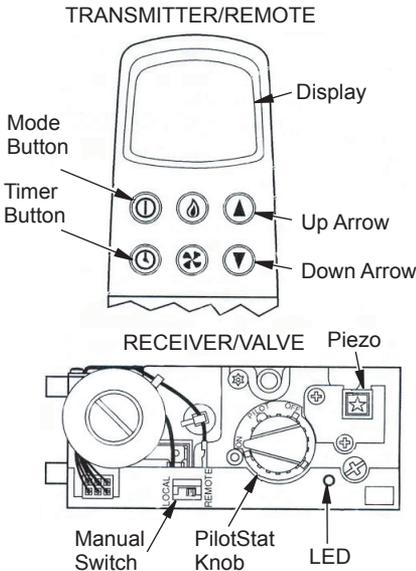

Figure 12 - RF Millivolt Valve Controls with Transmitter/Remote
The RF Millivolt valve control used on these appliances allows you to turn the gas log set on or off; use a timer to automatically operate the log set; increase or decrease flame height, fan speed or timing. An easy-to-read display gives you information about room temperature, set temperature, flame height level, fan speed level and a countdown timer, as well as a low battery indication. Figure 12 shows the location of the controls and indicators for the transmitter (remote) and the receiver (valve).
7. Turn PilotStat knob to ON See Figure 12, page 10.
1. Move switch to REMOTE position (see Figure 12, page 10). Remote comes on in Manual mode.